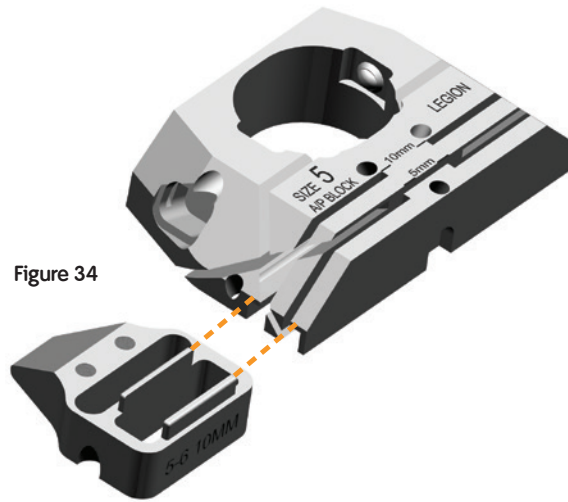

Figure 34
1. Attach the appropriate A/P Hemi Distal Shims, matching the size of the Distal Wedge resections, to the posterior aspect of the A/P Cutting Block (Figure 34).